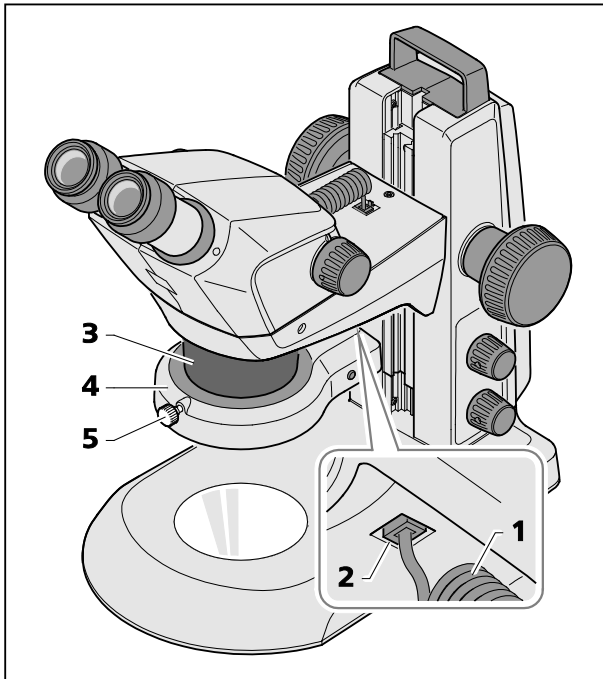

Fig. 13 Mounting ring illuminator on microscope body
- Insert the connection cable (Fig. 13/1) of the ring illuminator (Fig. 13/4) into the lower socket (Fig. 13/2) of the Stemi mount and into the socket of the ring illuminator.
- Push ring illuminator onto the microscope body (Fig. 13/3) from below, and secure using the knurled screw (Fig. 13/5).